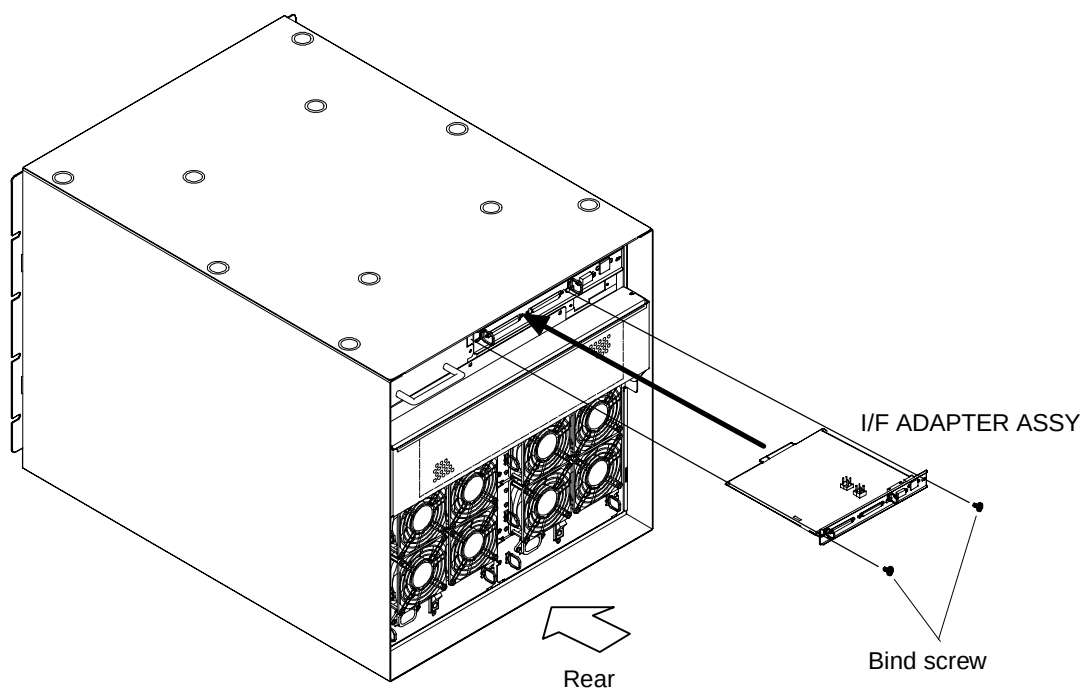

Figure 3.2.5 Setting I/F ADAPTER ASSY
3.2.4 Setting I/F ADAPTER ASSY (See Figure 3.2.5.)